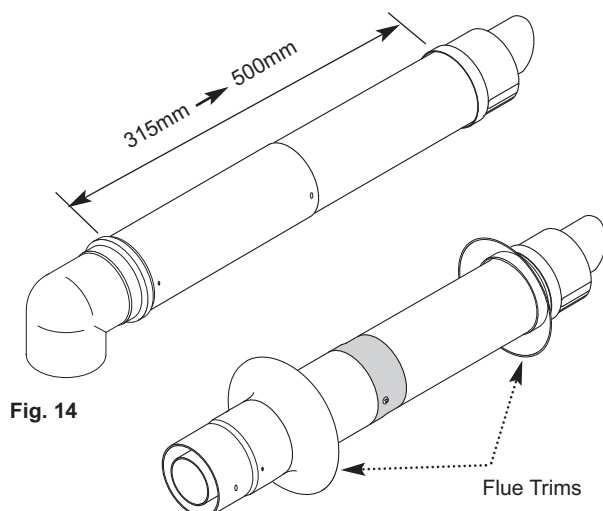

Fig. 14
1. The standard telescopic flue is suitable only for horizontal termination applications. It allows for lengths between 315mm and 500mm from elbow to terminal without the need for cutting (Fig. 14). Extensions of 250mm, 500mm & 1m are available.
1. The flexible flue trims supplied can be fitted on the outer and inner faces of the wall of installation (Fig. 14).